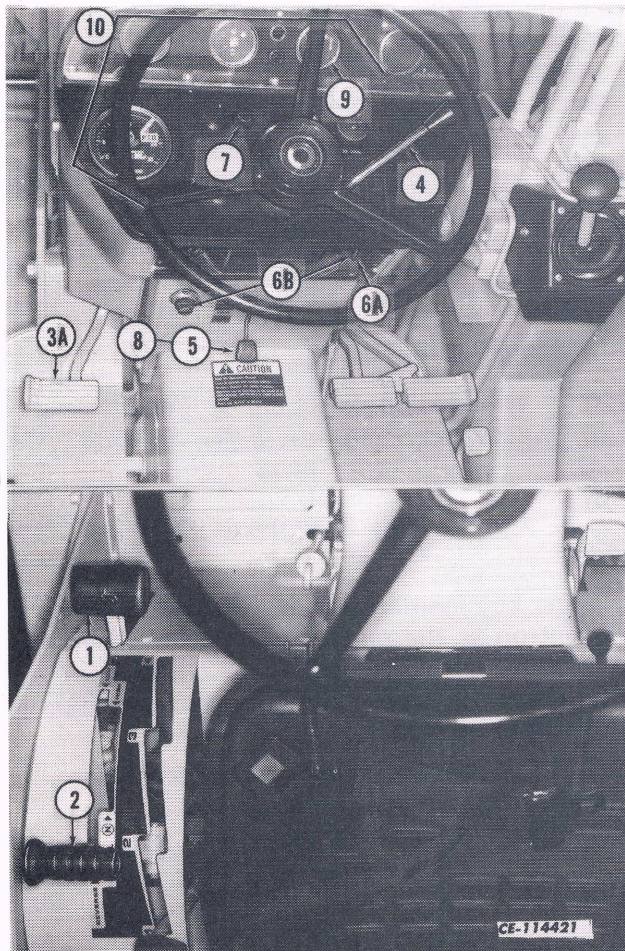

Fig. 1. Starting the Engine (Synchromesh Transmission)
Step numbers correspond with the numbers shown in Figs. 1, 2, 3 and 4.
3A. **Synchromesh Transmission (Fig. 1):** Depress the clutch pedal. The clutch pedal is equipped with a safety starting switch. This switch will not allow the engine to start unless the clutch pedal is depressed. Slowly release the clutch pedal after the engine is started.
10. Check all instruments for proper operation. Refer to the legend of Fig. 1, 2, 3 or 4 in Section 3 for proper indications on gauges.